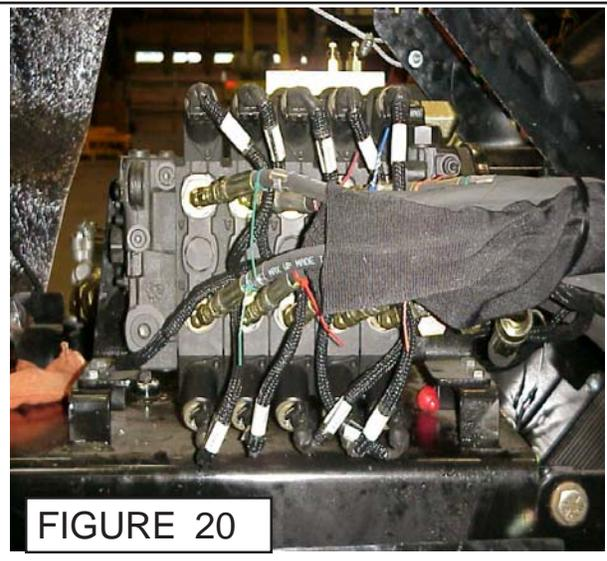

FIGURE 20
4. Wire Harness Terminal Installation. You will need to feed wire harness under the fitting of hoses to valve. (See Figure 20 & 21) lay the Plugs out in the Order they are to be installed starting at the far end terminal.